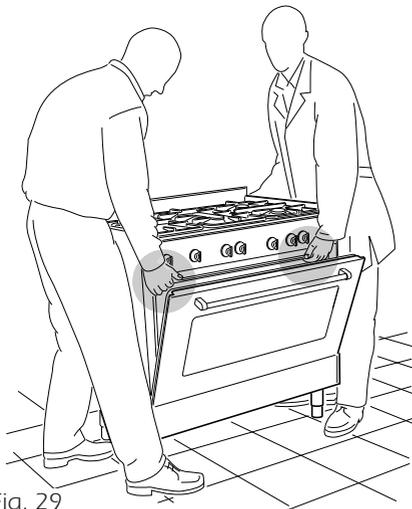
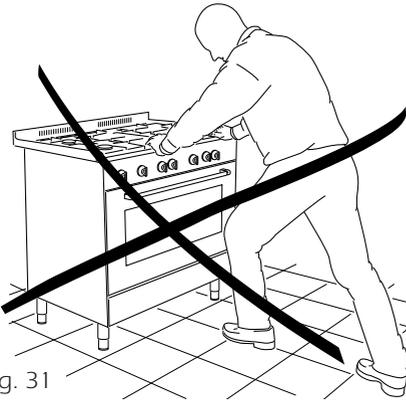

Fig. 29
Fig. 31
**When raising cooker to upright position always ensure two people carry out this manoeuvre to prevent damage to the adjustable feet (fig. 29).**
When moving cooker to its final position **DO NOT DRAG** (fig. 31). Lift feet clear of floor (fig. 29).